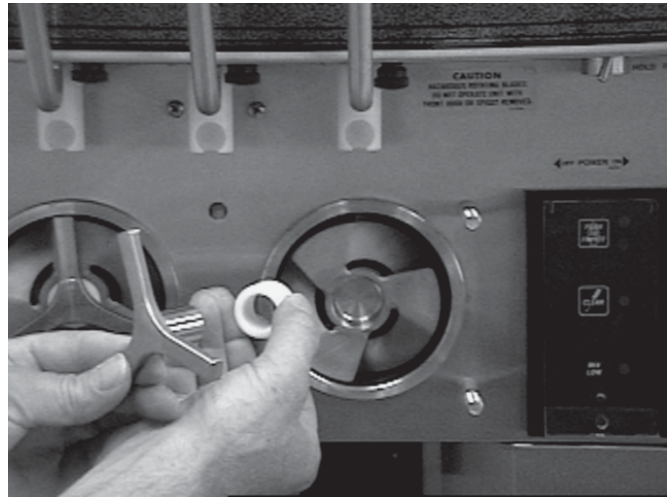

Figure 21. Removing Auger Supports
- D. Remove the front auger supports and bushings (Fig. 21).